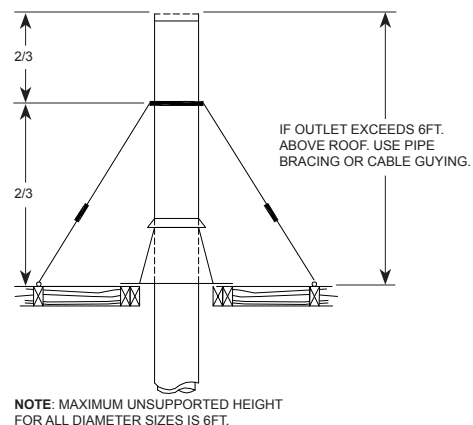

FIG. 4
3. When penetrating the roof, cut hole to maintain clearance to combustibles. The MF flashing and MSC storm collar are used to cover the hole in the roof. Terminate the vent using the MC cap. If vent is more than 6 feet above where it penetrates the roof, additional support is required. (See **FIG. 4**.)